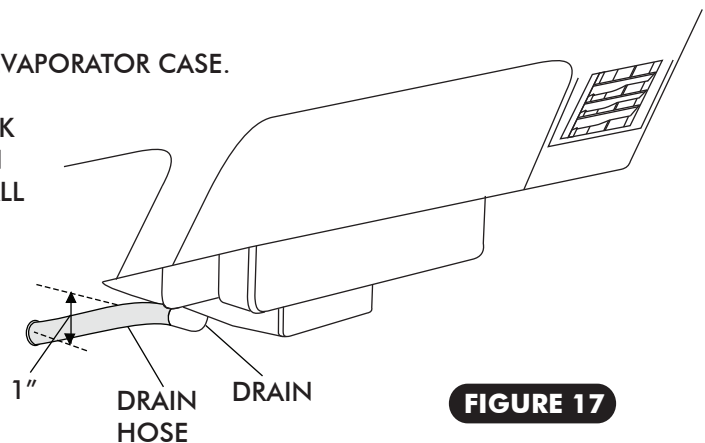

FIGURE 17
- ☐ IN LINE WITH THE DRAIN, LIGHTLY MAKE A MARK ON THE FIREWALL. MEASURE ONE INCH DOWN AND DRILL A 5/8" HOLE THROUGH THE FIREWALL (SEE FIGURE 17, RIGHT).
- ☐ ATTACH THE DRAIN HOSE TO THE BOTTOM OF THE EVAPORATOR UNIT AND ROUTE THROUGH THE FIREWALL (SEE FIGURE 17, RIGHT).